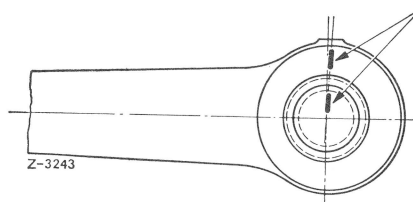

Fig. 4
- 6 Slip pitman arm on pitman shaft, so that mark on lever is in alignment with mark on pitman shaft (Fig. 4).